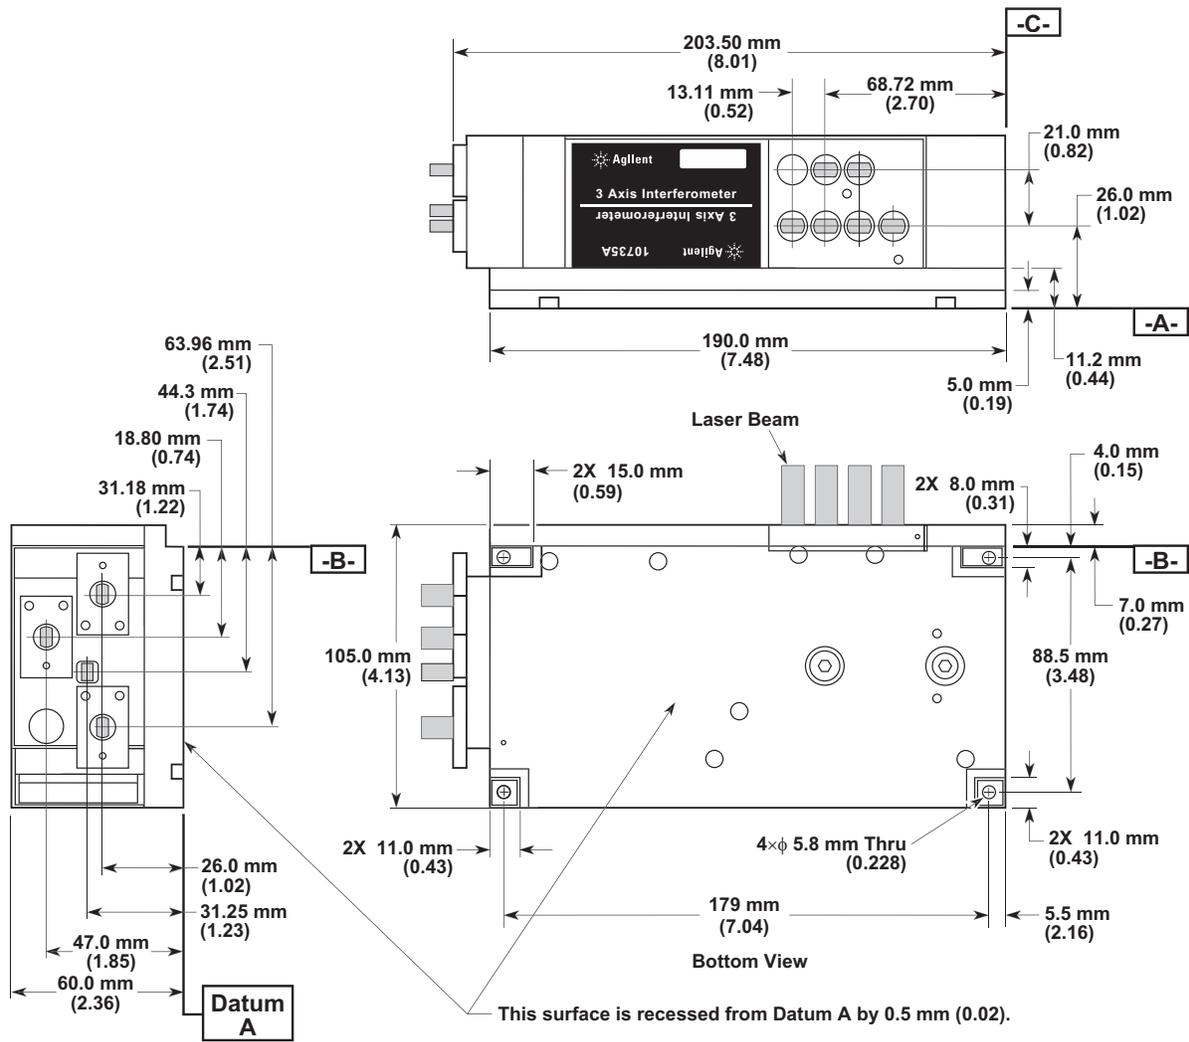

Figure 191 Agilent 10735A Three-Axis Interferometer — dimensions
**Dimensions:** see Figure 191 on the next page
**USE:** Multiaxis applications such as precise positioning of multiaxis stages, where linear and angular control of the stage is required. The Agilent 10736A provides three linear measurements. Two angular measurements can be calculated from this data. When the interferometer is placed along the X-axis, yaw (theta Z), and pitch (theta Y) can be derived in addition to linear (X) displacement. When it is placed on the Y-axis, yaw (theta Z), and roll (theta X) can be derived in addition to linear (Y) displacement. Redundant yaw is useful when mapping measurement mirrors, which provides improved accuracy. The Agilent 10736A-001 provides a beam bender for one measurement path. When 10736A-001 is installed, yaw is not measured. The interferometer and beam bender can be made vacuum compatible.
**Dimensions:** see figures 191 and 192 on following pages
**Axis:** 3 Linear axes which provide linear (X), pitch, and yaw; or linear (Y), roll or yaw.